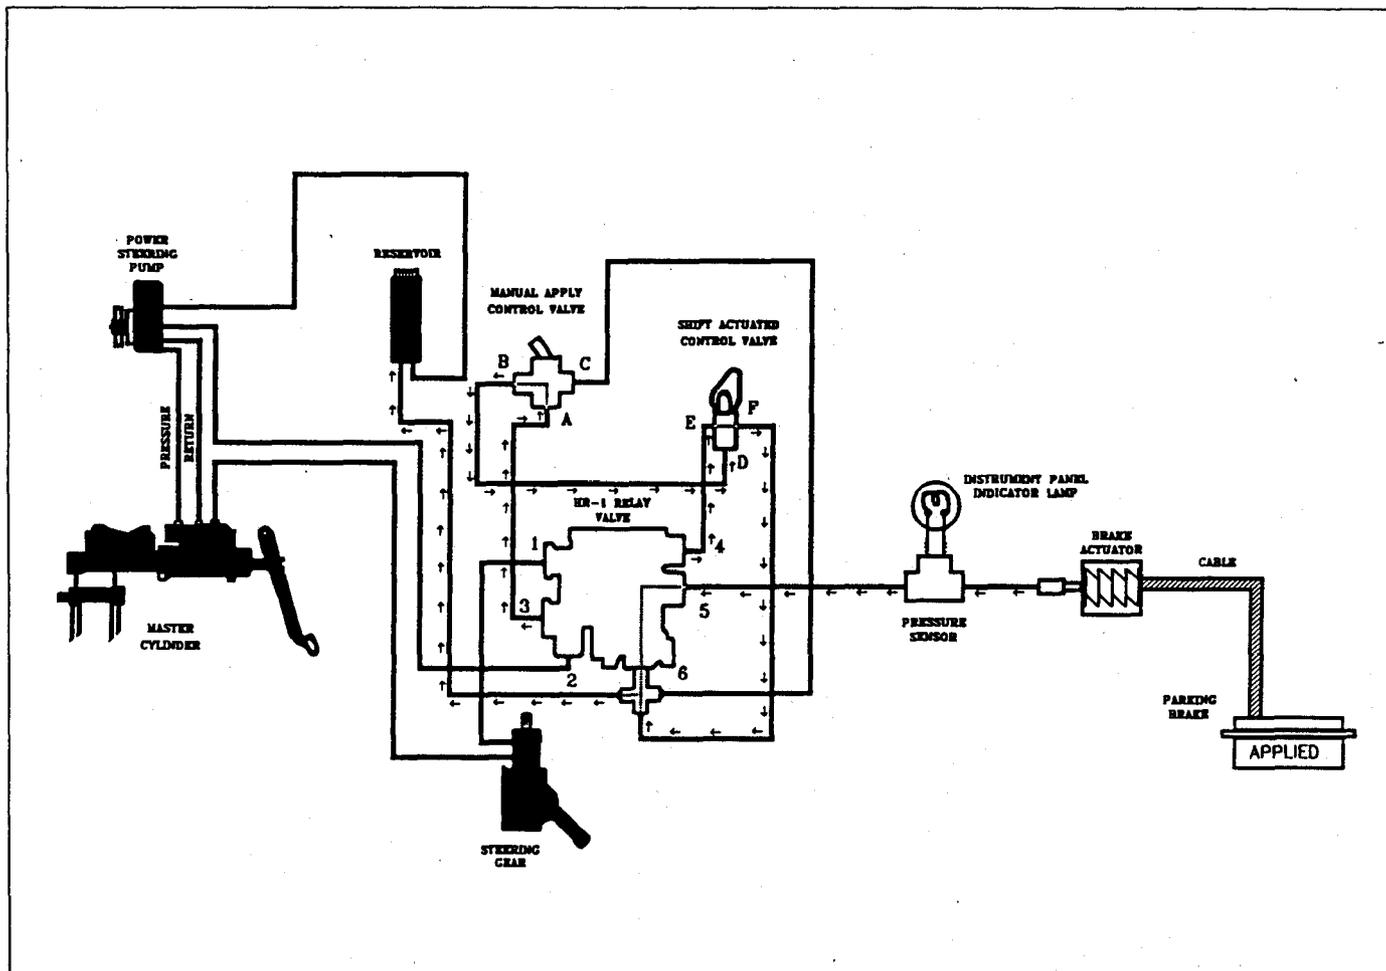

Figure 6-11
**Vehicle in park, engine running, manual apply control valve in the "released" position (Fig. 6-11)**